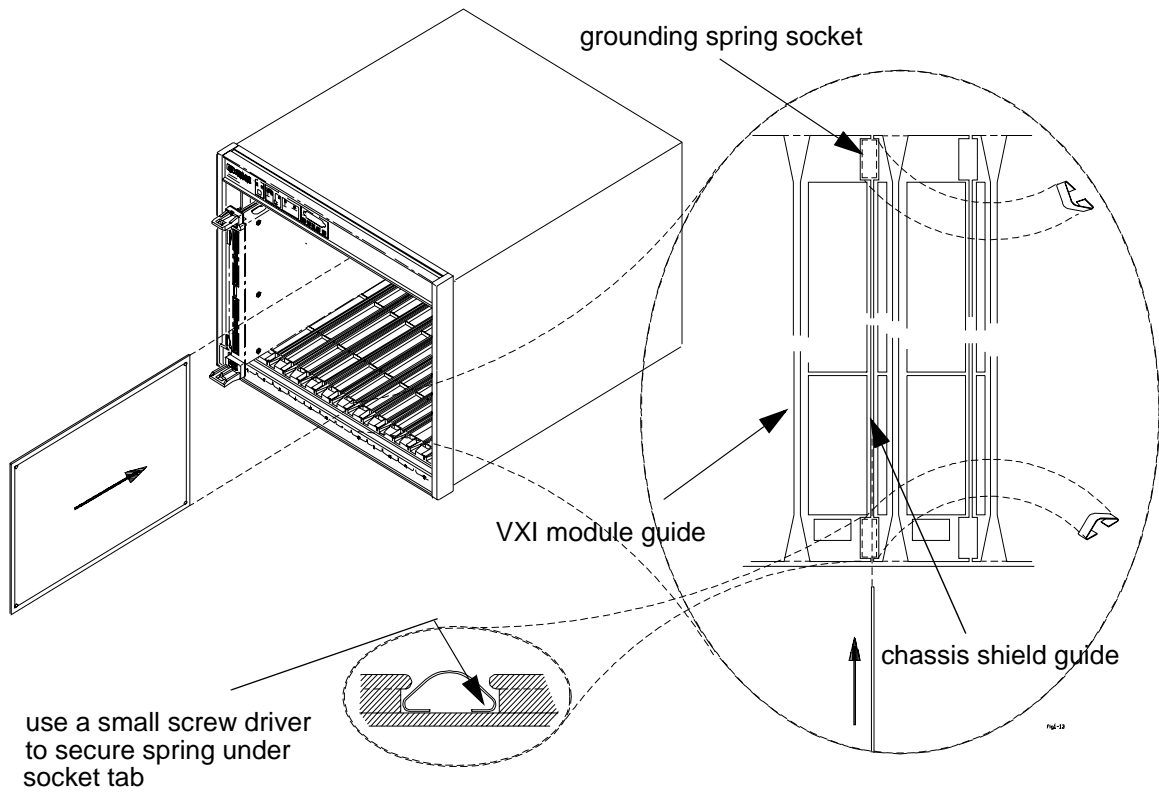

Figure 2-13. Installing the Grounding Springs and Chassis Shield
Note Each mainframe slot has top and bottom chassis shield guides (Figure 2-13). Chassis shields should be installed on both sides of an instrument generating interference/noise, or installed on both sides of a sensitive instrument.
1. Insert grounding springs into the four sockets (two top, two bottom) along the shield guides (Figure 2-13). Use a small flat blade screwdriver to secure each spring under the socket tab.